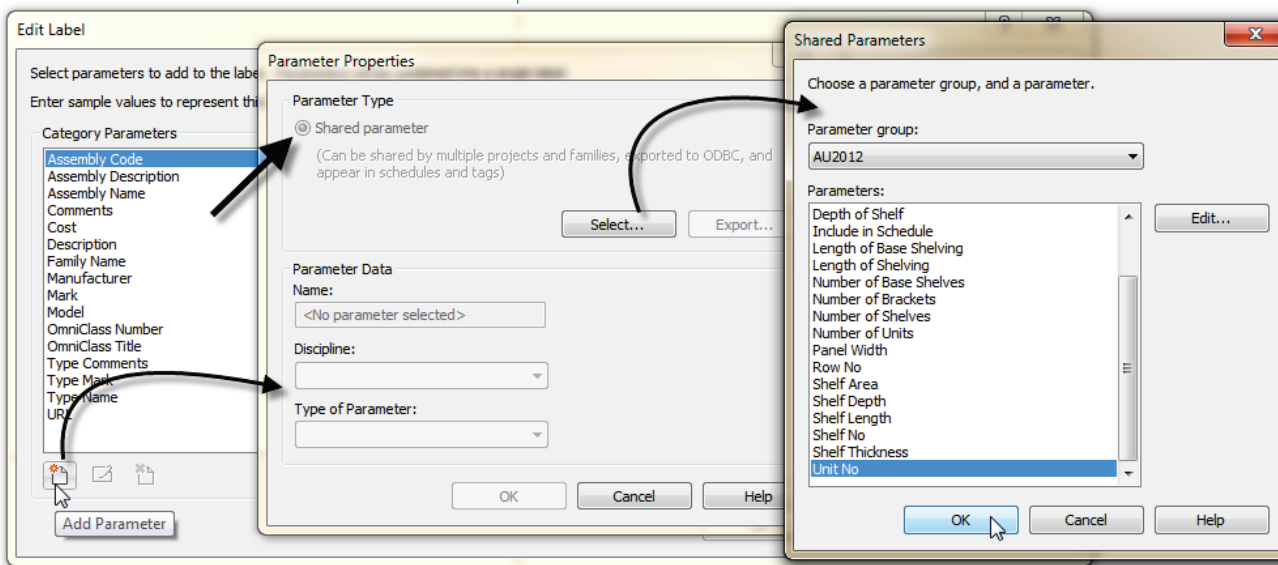

Figure 8—Add a new parameter from the Shared Parameter file
8. In the “Shared Parameters” dialog, choose the Unit No parameter and then click OK twice (see Figure 8).